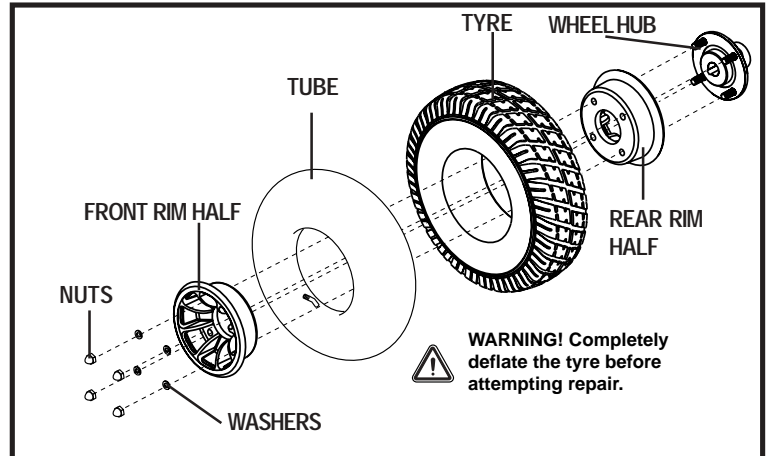

Figure 28. Quantum 1107 Drive Wheel Disassembled
6. Remove the nuts and washers from the wheel hub and separate the rim halves. See figure 28.